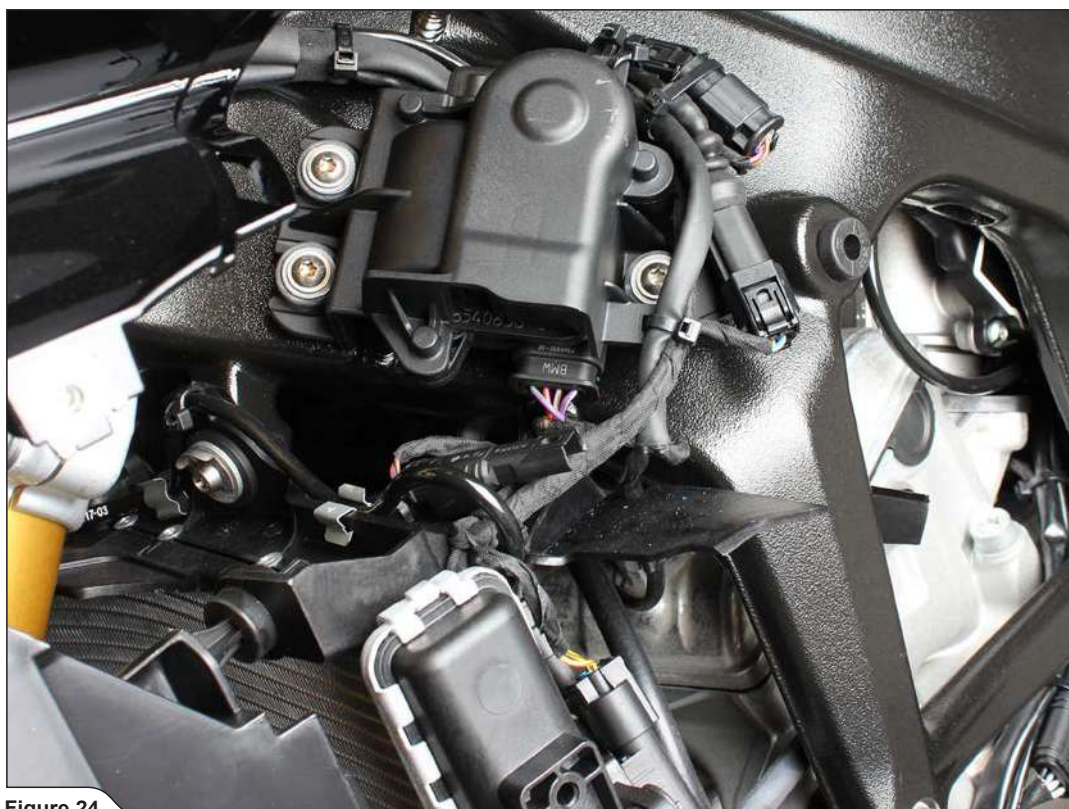

Figure 24
19. Reconnect and reinstall the servo motor back onto the chassis (Figure 24).